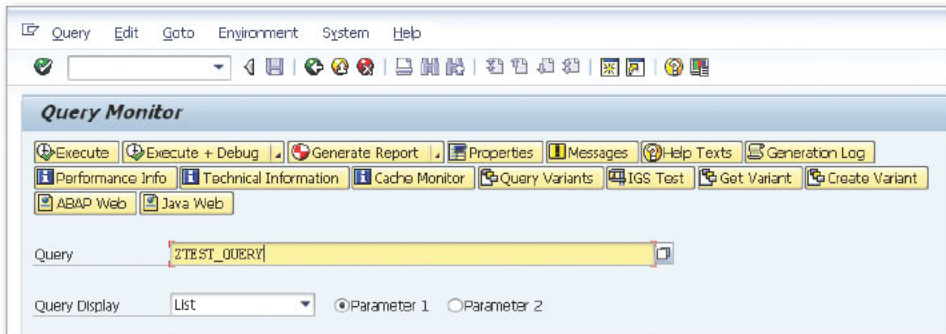

Figure 1 RSRT Screen
1. Log in to the SAP NetWeaver BW system, and execute Transaction RSRT. The QUERY MONITOR screen appears as shown in Figure 1.